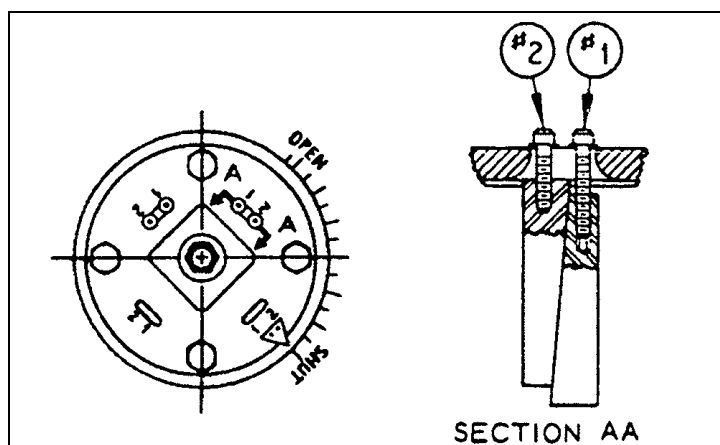

Figure 3— 2050 Key and Lockscrew Arrangement
6. Loosen lockscrew #1 about 6 to 8 turns. Loosen lockscrews #2 about 3 turns. See Figure 3.
4. Loosen lock screw #1 about 6 to 8 turns. Loosen lock screws #2 about 3 turns. See Figure 3.